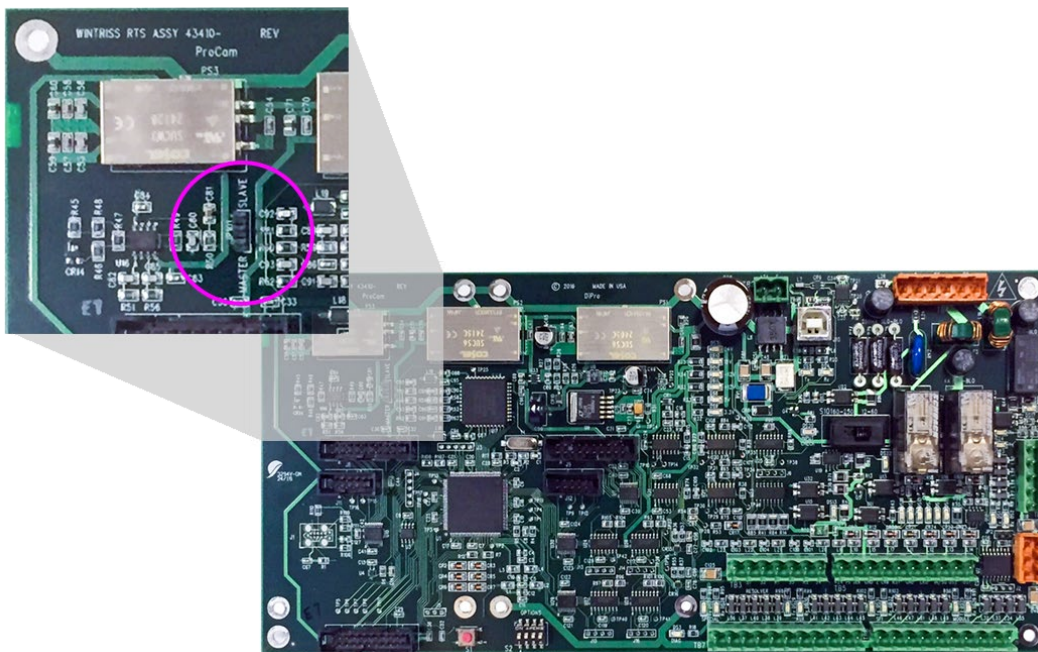

Figure 2-4. Location of the Master-Slave Jumper on SmartPAC PRO Board
6. Locate jumper JP101 on the SmartPAC PRO board (see Figure 2-4, page 28) and move it to the “Slave” position.